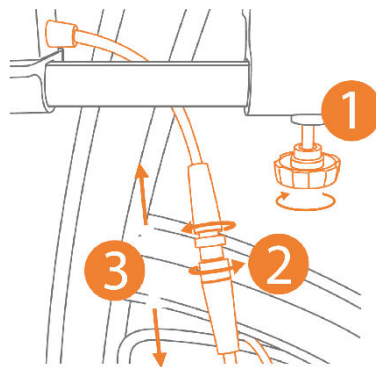

Figure 7
1. Make sure to disconnect the joystick controller wiring before removing the joystick holder. Loosen the joystick controller by untightening the nut and disconnect the joystick cable by twisting the cable rings (Figure 7).